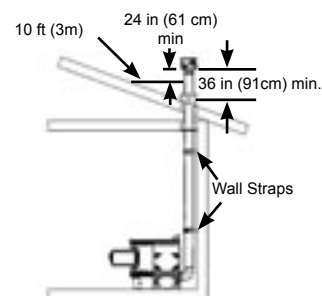

Figure 13
7. Install Wall Straps every four (4) feet in both vertical and horizontal vent runs (required). See Figure 13.
9. After lining up for hole in roof, use same method as above and cut either a round or square hole in the roof. Always cut the hole at least 4 in. (10cm) larger than the diameter of the pipe. Install the upper edge and sides of Flashing under the roofing materials and nail to the roof along the upper edge. Do not nail the lower edge. The Vent Cap must extend a minimum of 36 in. (91cm) above the roof. Also, the Vent Cap must be 24 in. (64cm) higher than the highest part of the roof or structure that is within 10 ft. (3m) of the chimney, measured horizontally. See Figure 13.